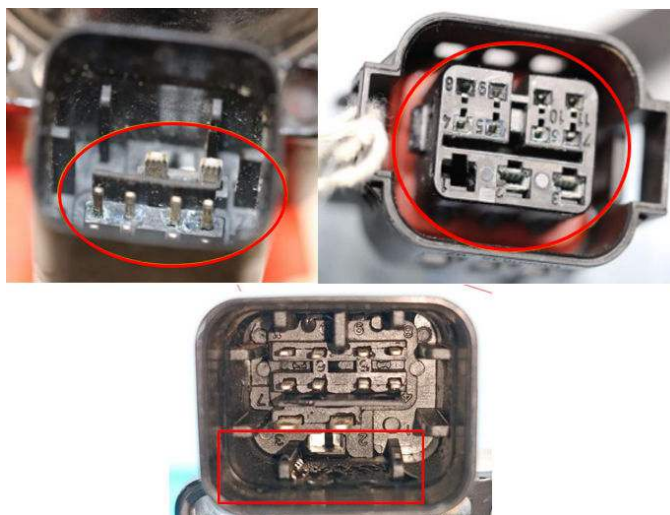

Fig. 1
5. Inspect for evidence of moisture on the connector pins at both the PTU and the shift actuator wire harness connectors Fig. 1.